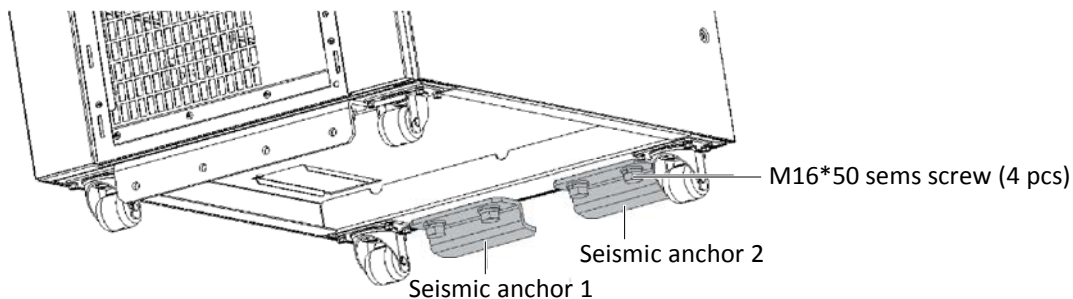

Figure 8-16 Installing seismic anchor 1 and seismic anchor 2
2. Use four M16 × 50 sems screws to install seismic anchor 1 and seismic anchor 2 on the rear bottom of the UPS cabinet, as shown in Figure 8-16.